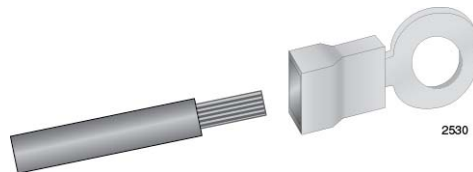

Figure 118. Attaching the Stranded Grounding Wire to the Grounding Terminal
2. Insert the grounding wire into the grounding terminal provided with the power supply and use a crimping tool to secure it to the grounding terminal. See Figure 118,